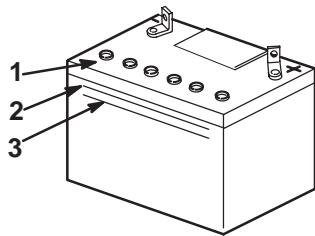

Figure 34
2. Look at the side of the battery. The electrolyte must be up to the **upper** line (Fig. 34). Do not allow the electrolyte to get below the **lower** line (Fig. 34).
3. Remove the vent caps from the battery (Fig. 34).
4. Slowly pour distilled water into each battery cell until the level is up to the **upper** line (Fig. 34) on the battery case.
5. Wait five to ten minutes after filling the battery cells. Add distilled water, if necessary, until the electrolyte level is up to the **upper** line (Fig. 34) on the battery case.